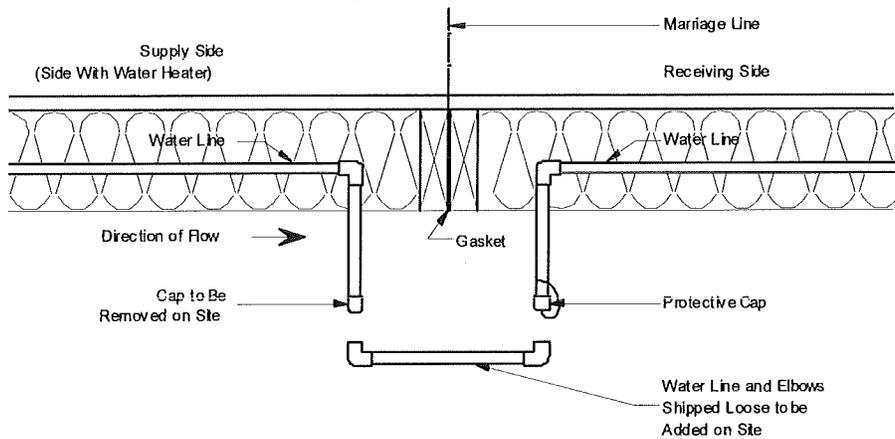

Figure 44. Water line crossover through bottom board
2. **Connect pipes.** Connect threaded water lines using flexible pipe or a rigid connector line (if provided) and connector fittings (do not use lubricants or sealants). Connect non-threaded water lines, pipe, and elbows with cement provided, inserting pipe to full depth of each fitting (**Figure 44**).